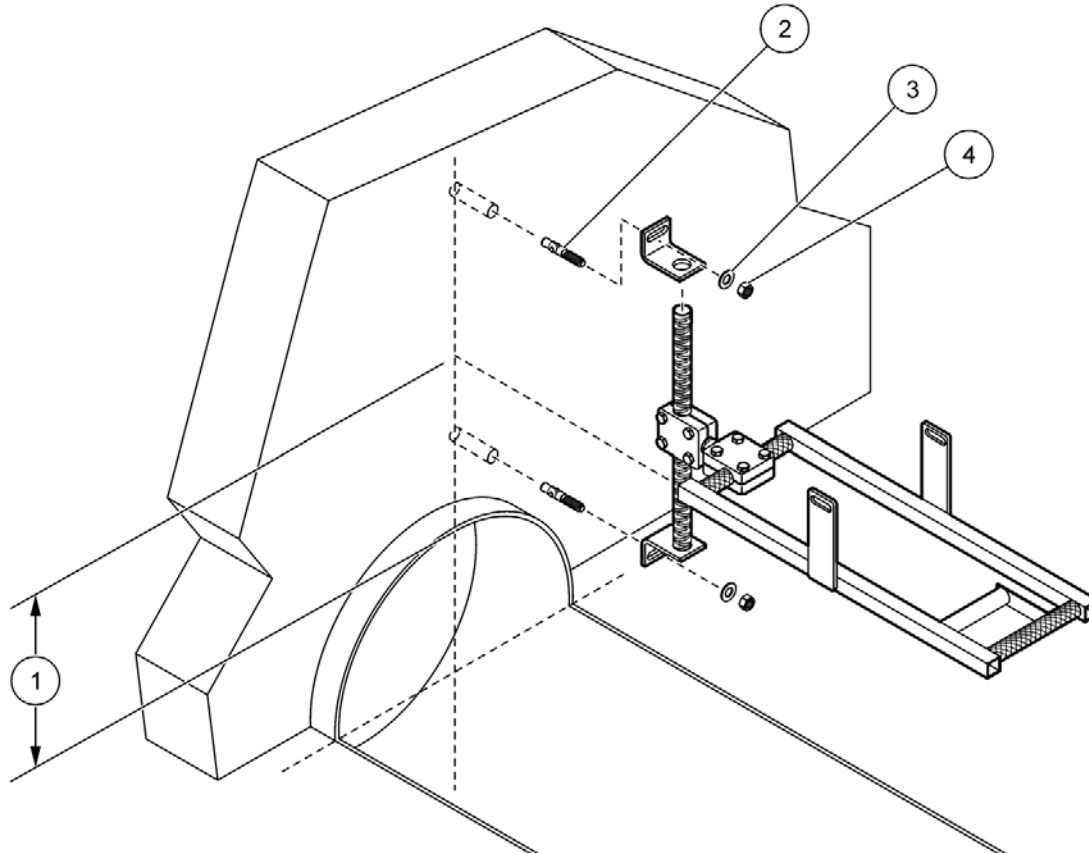

Figure 9 Wall installation
1. Make a mark on the wall that identifies the location of the top of the sensor frame (Figure 9). The wall brackets will be installed above and below this mark.
7. Connect the frame to the wall bracket with a spacer as shown in Figure 9. The 12-inch spacer may be necessary to position the sensor farther from the wall when there is a large pipe lip.
1. Measure directly above the crown of the pipe to the top of the frame (Figure 9 on page 20).